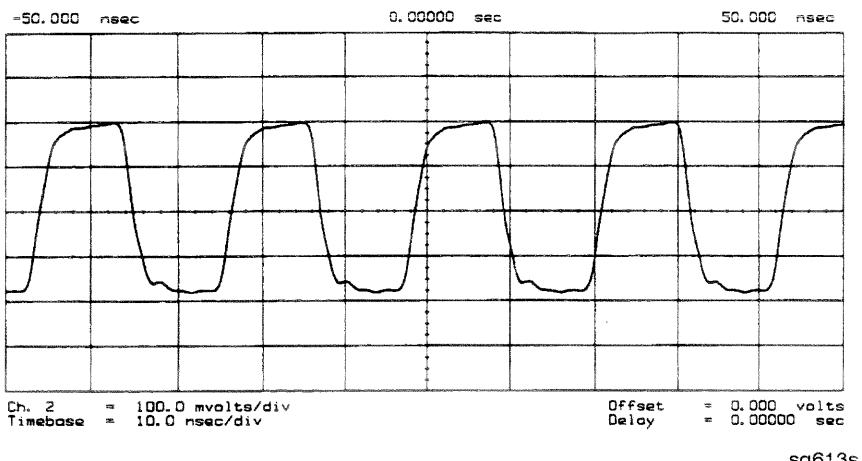

Figure 7-11. Typical FN LO Waveform at A12J1
2. Use the front panel knob to vary the frequency from 30 to 60 MHz. The signal should appear similar to Figure 7-11. The display will indicate 10 to 60.8 MHz.